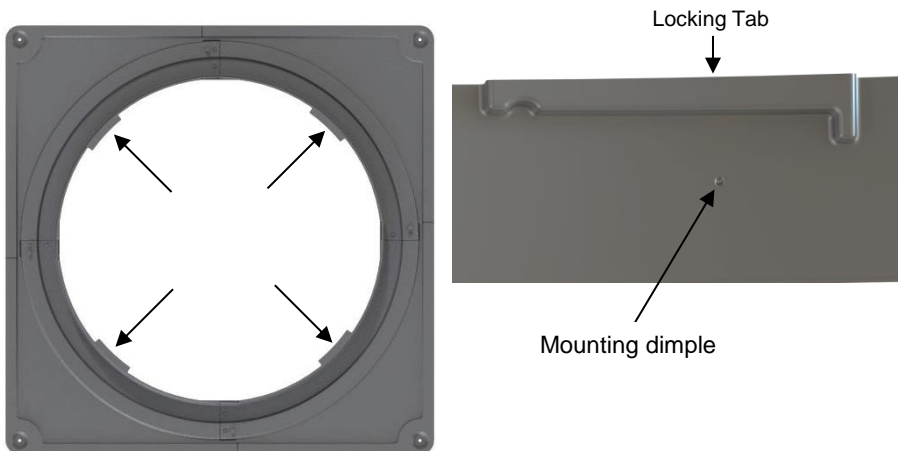

Figure 6: Locate four mounting dimples
- 5.) Locate the four (4) mounting dimples on the inside perimeter of the adapter flange (Fig.6).